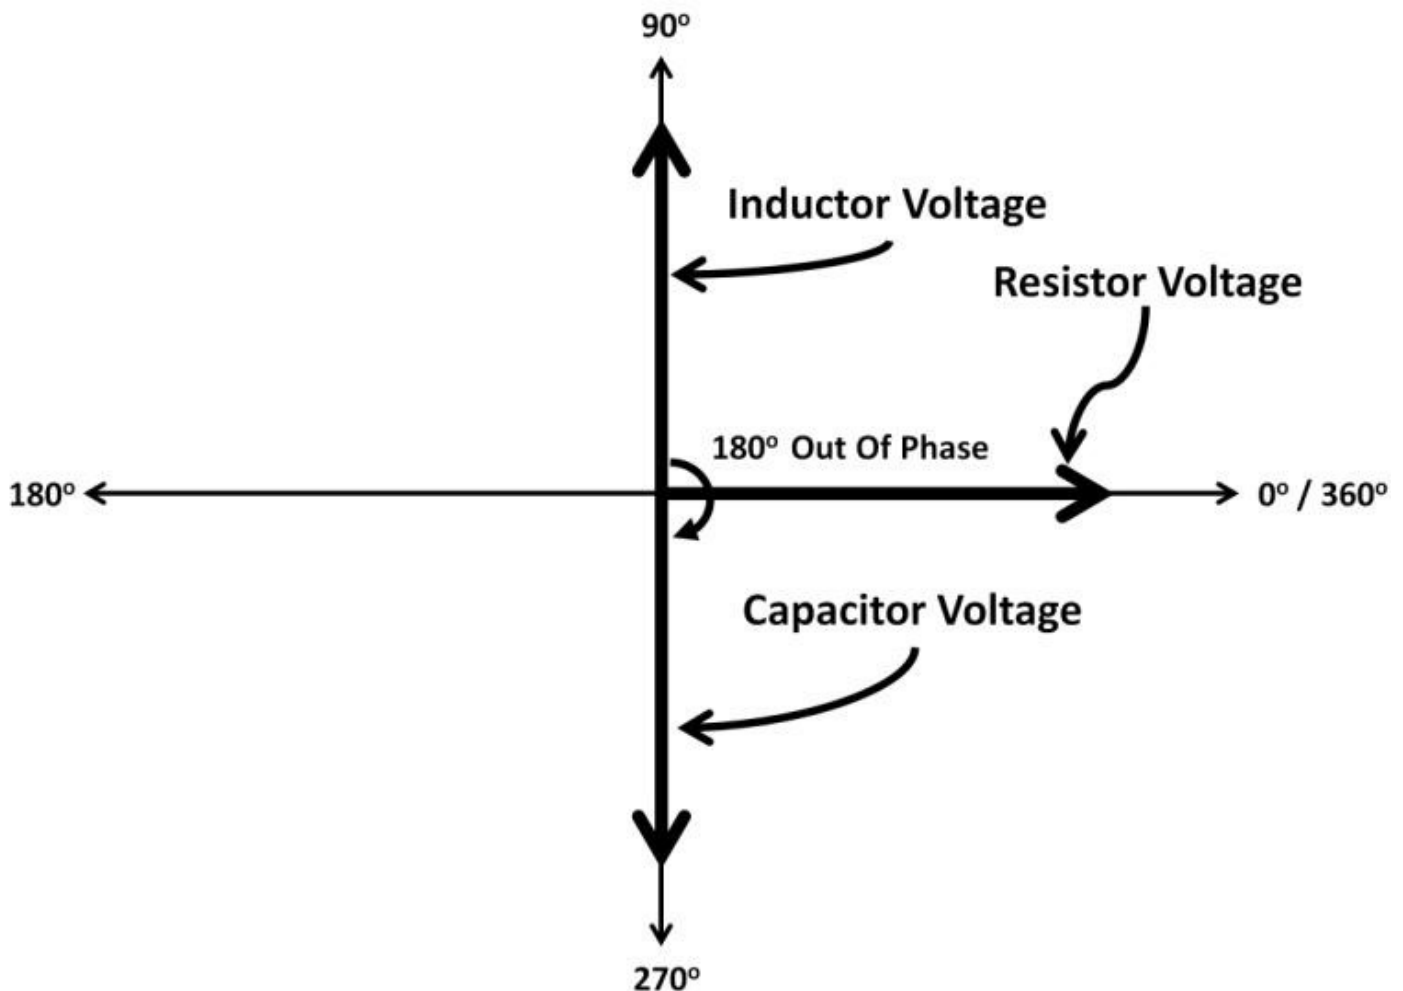

Figure 3.52: Inductor voltage leads capacitor voltage
All currents in a series circuit are in phase. Capacitor voltage lags its current by 90 degrees (ICE) while inductor voltage leads its current by 90 degrees (ELI). This results in inductor voltage leading capacitor voltage by 180 degrees. Using the same AC principles, voltage, current, and phase information can be extracted. In figure 3.52, the vector diagram shows inductor voltage (VL) is leading capacitor voltage (VC) by 180 degrees. The resistor voltage is at zero degree as the reference voltage. VL is standing upward in the vector diagram while VC is pulling downward due to the 180-degree phase difference. There is a net voltage sum depending upon the XL and XC impedance sizes. This series circuit only has one current going through all three components. If the C and L were designed to have the same impedances, the resulting circuit is purely resistive, i.e., no phase shift between voltage and current. The net VL and VC voltage yields zero voltage. This leads to maximum current flowing in the circuit with minimum impedance. This particular frequency is called resonant frequency. Frequency affects both XL and Xc. L C reactance is heavily controlled by frequency. Keep in mind, however, the non-ideal R, L, and C nature could become factor in the RLC circuit. We can derive resonant frequency using figure 3.52: **Vout = 0** when XL and XC cancel each other out: **XL = Xc** or **XL – Xc = 0**. Maximum current occurs when **XL – Xc = 0**, i.e., minimum impedances. To look for the resonant frequency, we simply apply XL = XC then solve for resonant frequency, f: